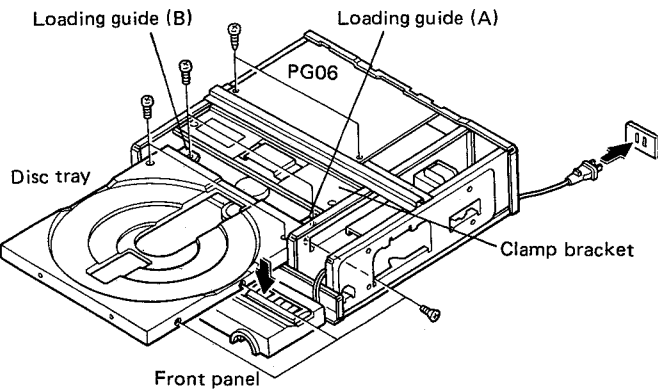

Fig. 4
8. Remove the retaining screws from the loading guides (A) (B), and take out the disc tray together with the loading guides. (Figs. 4 and 6)
8. Attach the loading guides (A) & (B) with screws (Figs. 4, 6), and push the disc tray into the loaded position.